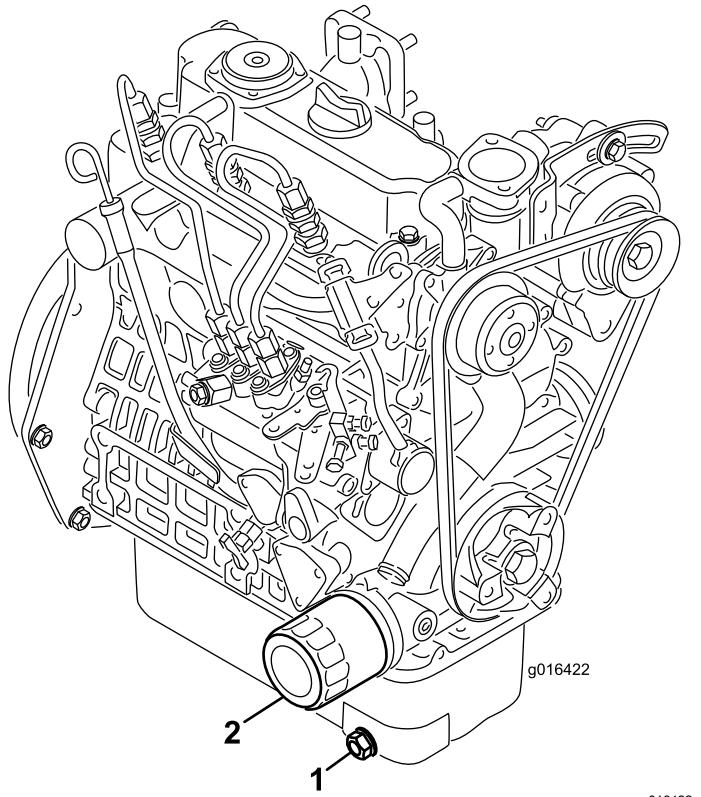

Figure 39
- Remove the drain plug (Figure 39) and let the oil flow into a drain pan. When the oil stops, install the drain plug.